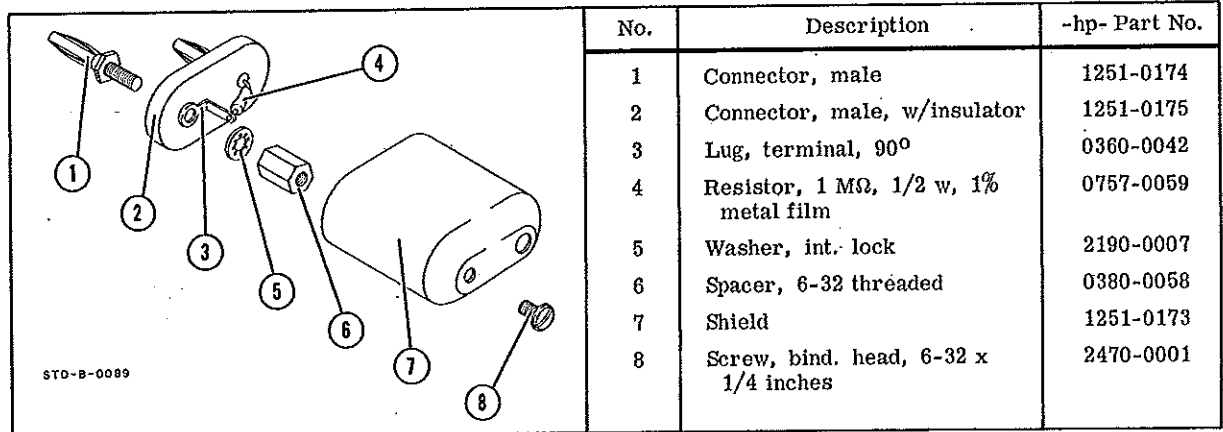

Figure 5-3. Shielded Load for Residual Noise Check
- a. An AC Voltmeter (-hp- Model 331A) and a 1 MΩ shielded resistor (refer to Figure 5-3) will be required for this check.